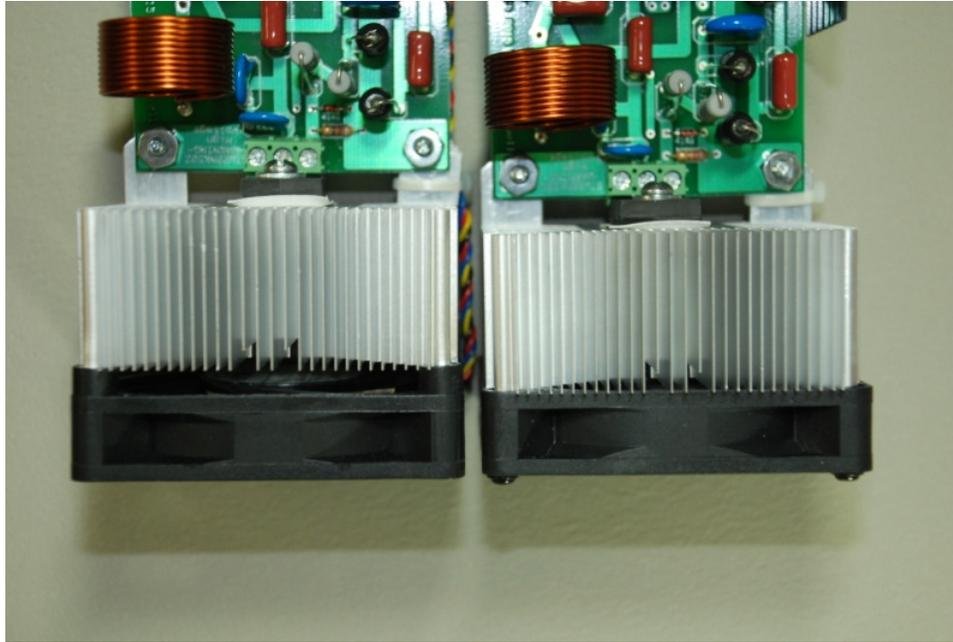

Figure 2.
3) The cooling fan wires will have either two or four wires. The four wire colors are **red, black, yellow** and **blue**. If there are only two wires, go to Step (5).
5) Look at the back of the cooling fan that was mounted against the heat sink. **(See Figure 2, LEFT.)** If the back side of the fan has four corner standoffs that space the fan slightly away from the heat sink, then cut away the standoffs to make the back of the fan smooth. If this is not done, the mounting screws will be too short to reinstall the fan on the heat sink.